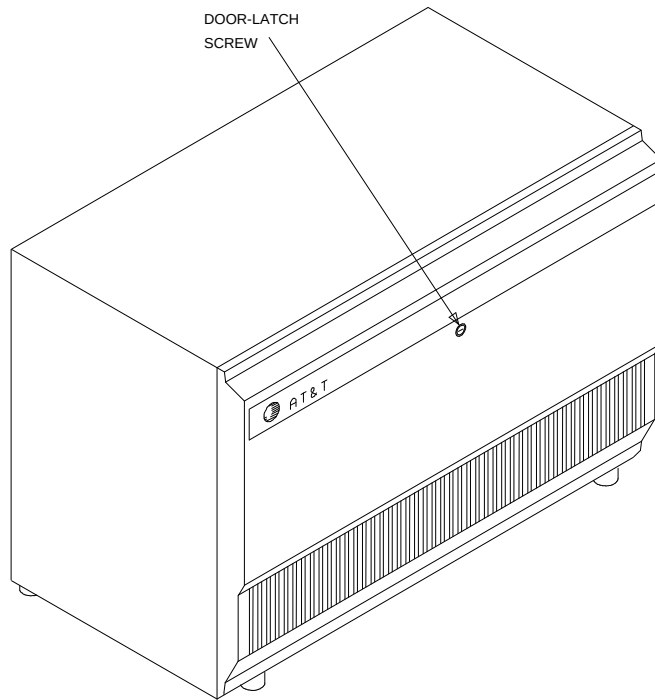

Figure 2-1. Location of Door-Latch Screw for DEFINITY ECS R5si Cabinet
1. Use a screwdriver, and turn door-latch screw counterclockwise one quarter turn to release door (see Figure 2-1).